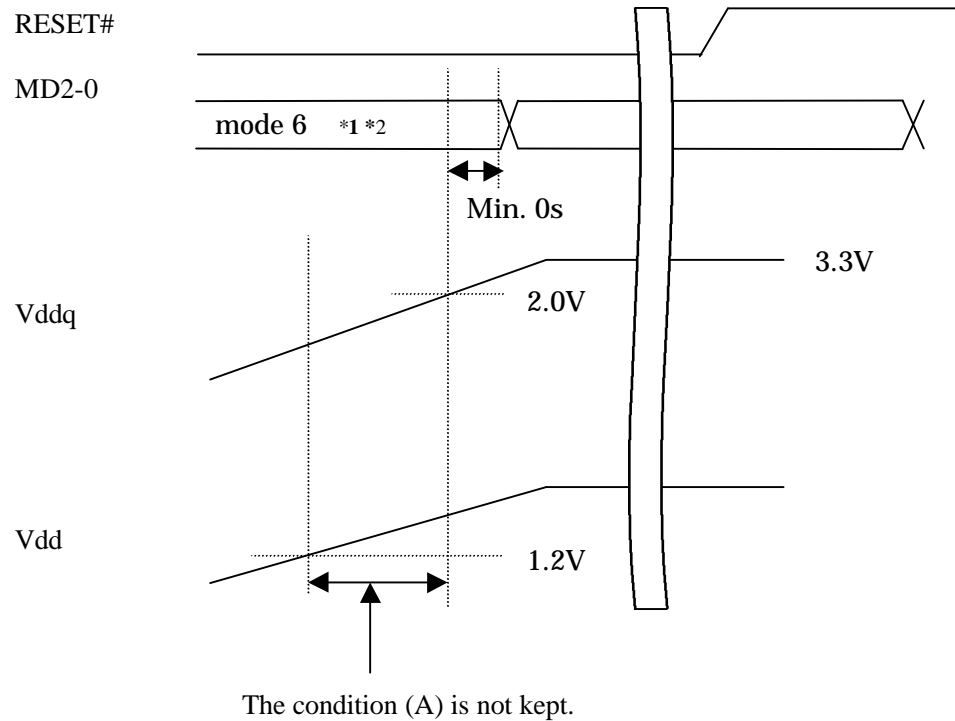

Figure 1. How to once set clock operation mode as mode 6.
- (1) Set the clock operation mode 6^{*1} in supplying power, and secure the condition (A), then set desired clock operation mode (shown in Figure 1).
- (2) Once start in the clock operation mode 6^{*1}, then set desired frequencies by changing FRQCR (The clock divider 1 can't be used in this clock operation mode).
- (3) Once stop PLL2 (to write 0 to FRQCR.PLL2EN), and keep the FRQCR.PLL2EN as 0 for more than 1us, then restart PLL2 (to write 1 to FRQCR.PLL2EN). (It is not guaranteed that the CKIO output is stable until this operation is finished. If you use this workaround, please check the noise or the clock network on the real board.)